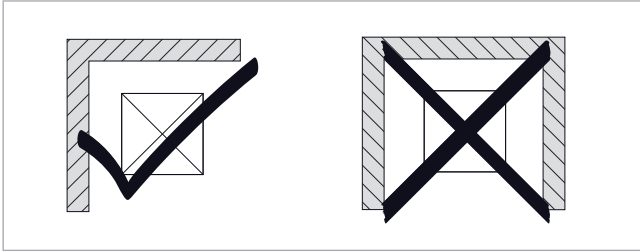

Fig. 3: Installation conditions near walls
- Do not install the heating pump in structures that are closed on three sides. See → fig. 3